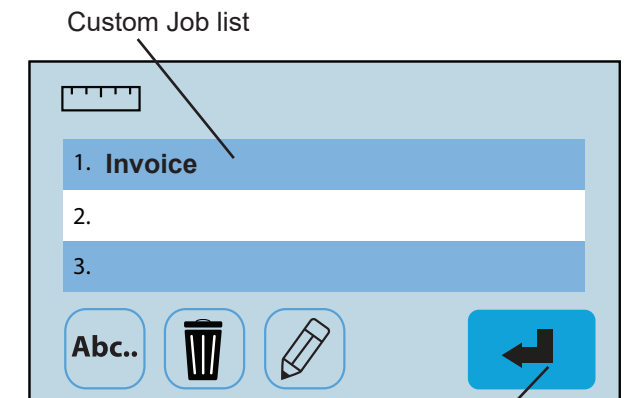

Fig. 16
- Select the custom job and press the blue enter icon  to confirm the fold stops (Fig. 16).